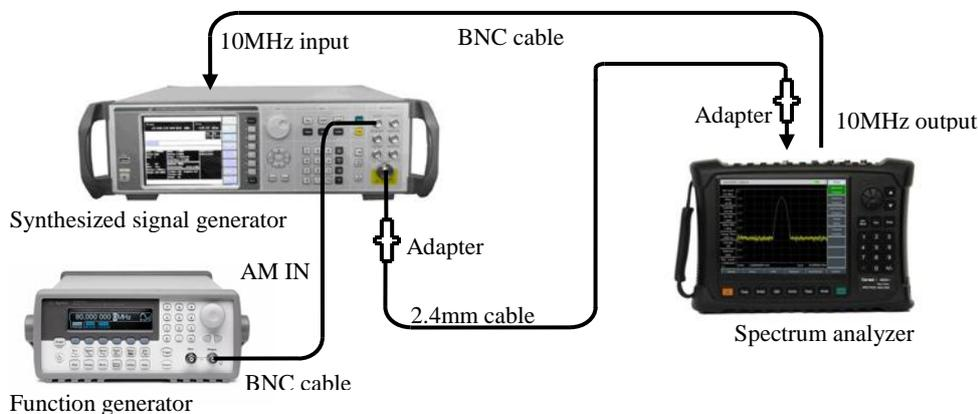

Fig. 12-4 Setting for Sweep Time Accuracy Test
- 1) Connect the test equipment as shown in Fig. 12-4. Connect the output of the function generator to the AM input end of the signal generator, and the RF output of the signal generator to the RF input port of the spectrum analyzer to be tested. The spectrum analyzer will provide the frequency reference for the synthesized signal generator.